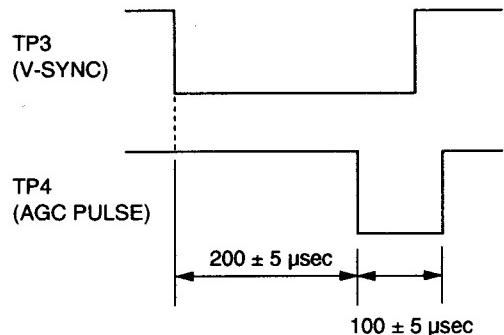

Fig. 5-2-5
- Adjust VR4 so that the AGC Pulse Phase becomes 200 ± 5 μ sec. as shown in the Fig. 5-2-5.
- Adjust VR11 so that the AGC Pulse Width becomes 100 ± 5 μ sec. as shown in the Fig. 5-2-5.